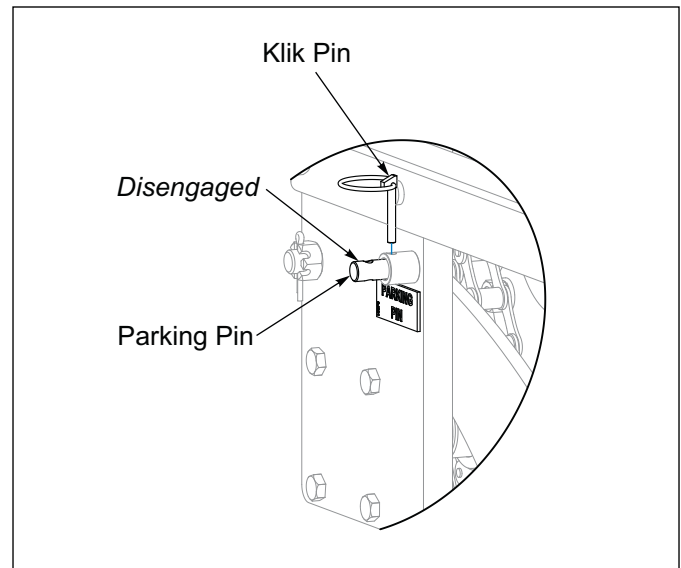

Figure 3-3: Parking Pin Disengaged
10. Raise seeder. Remove parking pin. **See Figure 3-3.** Adjust or lock tractor sway stabilizers if equipped, centering the Seeder with the Tractor. **Refer to the Tractor Operator's Manual.**